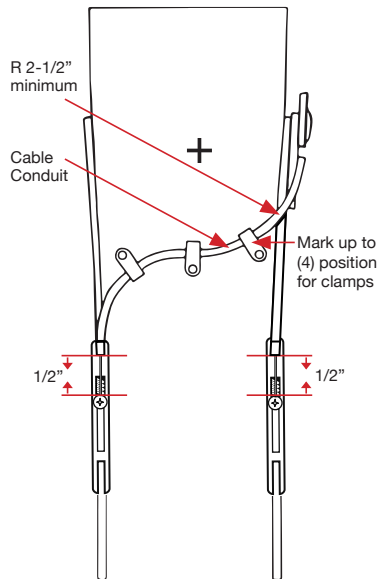

Figure 3
12 Locate and mark the positions of up to (4) plastic cable clamps along path of the medial cable traced in step 11 (see Figure 3).